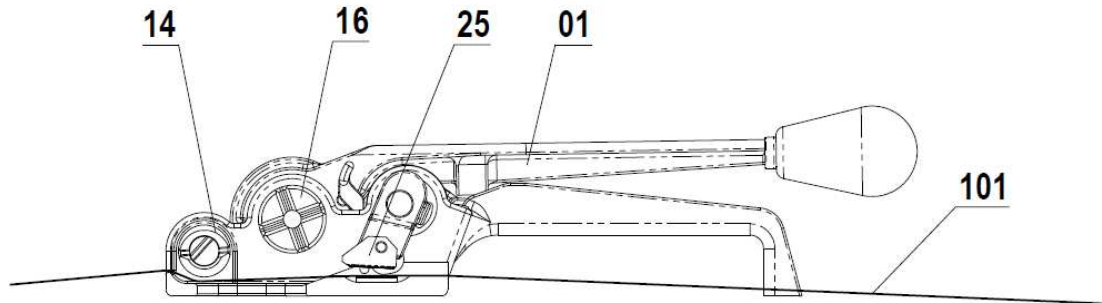

Fig. 2
1. Raise **Gripper Foot 25** by pressing down on **Tension Handle 01**. Load bottom strap **101** under **Cutter Housing 14**, under **Gripper Foot 25** and leave at least 2" of the strap extended out from the front of the tool for seal placement as shown on Fig. 2.